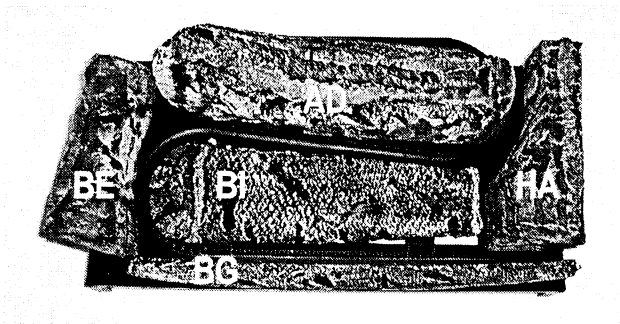

FIGURE 9B
2. Place the 'AD', 'BE', 'HA' & 'BG' logs into position on the burner cover aligning the holes in the bottom of the logs to the corresponding pins in the burner cover. Figure 9B.